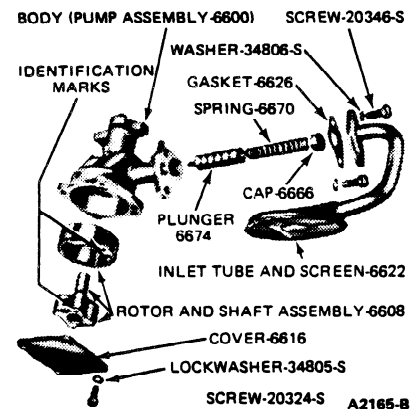

FIG. 65 Oil Pump Assembly
- Remove the cover attaching screws and remove the cover (Figure 65).